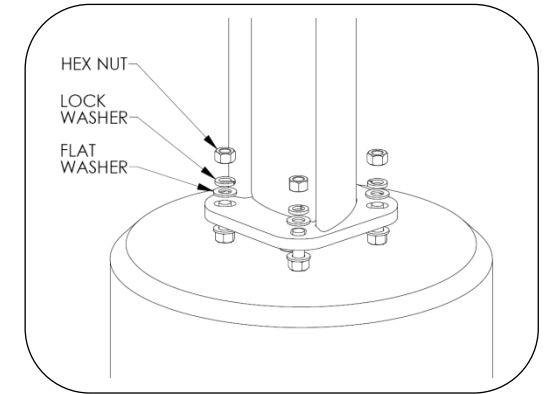

Fig.5 – Install pole and anchors
5. Install washer, lock washer and hex nut as shown in Fig. 5.